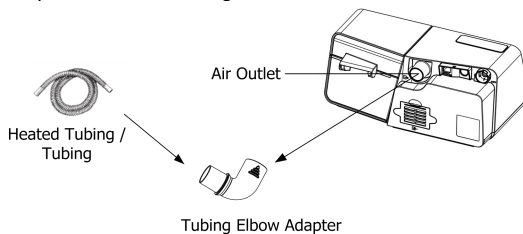

Fig. 12-9
(3) To apply the tubing elbow adapter, connect the tubing elbow adapter between the device air outlet and the tubing (heated or standard tubing) as shown in Fig. 12-9. The 90-degree elbow helps to direct the tubing.